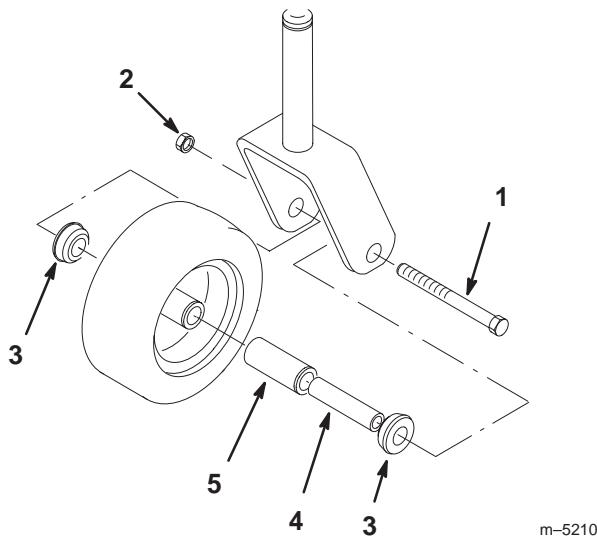

Figure 71
1. Remove the locknut and wheel bolt holding the caster wheel to the caster fork (Fig. 71).
2. Remove one bushing, then pull the spanner bushing and roller bearing out of the wheel hub (Fig. 71).
3. Remove the other bushing from the wheel hub and clean any grease and dirt from the wheel hub (Fig. 71).
4. Inspect the roller bearing, bushings, spanner bushing and inside of the wheel hub for wear. Replace any defective or worn parts (Fig. 71).
5. To assemble, place one bushing into the wheel hub. Grease the roller bearing and spanner bushing and slide them into the wheel hub. Place the second bushing into the wheel hub (Fig. 71).
6. Install the caster wheel into the caster fork and secure with the wheel bolt and locknut. Tighten the locknut until the spanner bushing bottoms against the inside of the caster forks (Fig. 71).